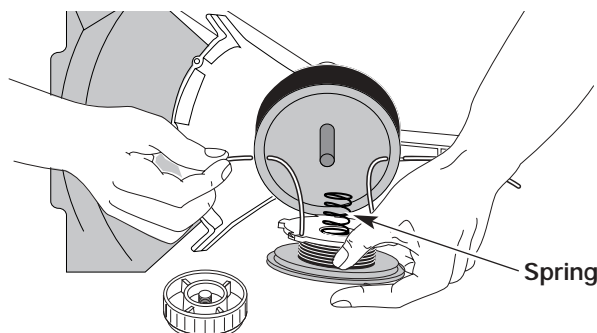

Fig. 40
- Insert the ends of the line through the eyelets in the outer spool and place inner reel with spring inside the outer spool (Fig. 40). Push the inner reel and outer spool together. While holding the inner reel and outer spool, grasp the ends and pull firmly to release the line from the holding slots in the reel.
5. Insert the ends of the line through the eyelets in the outer spool (Fig. 40).